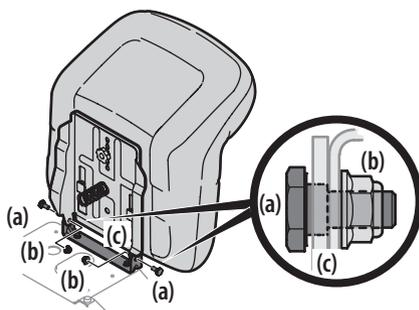

Figure 9
6. Install the two shoulder bolts (a) and lock nuts (b) removed from the seat mounting bracket (c) in Step 1. See Figure 9.
**NOTE:** Make sure that the bolt's shoulder is completely recessed into the seat bracket when securing the lock nut. See inset of Figure 9.